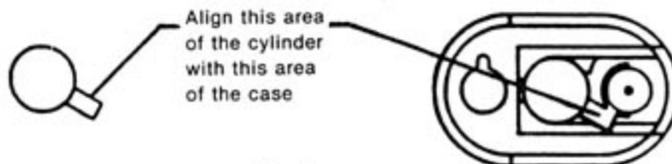

Fig. 4
2. With the lower case upside down insert the key cap and the cylinder into the lower case. (See Fig. 4)